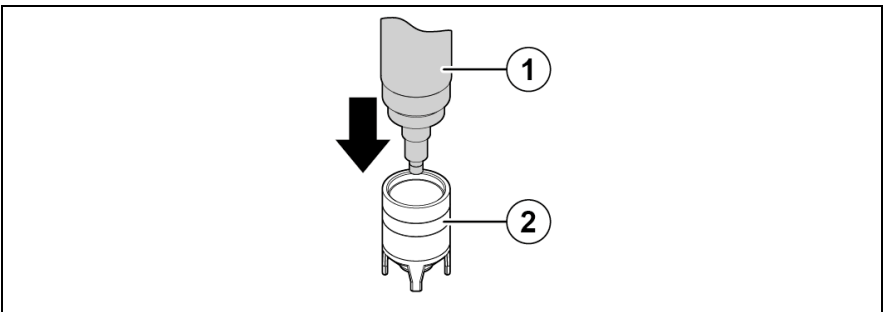

Fig. 5: Placing the sensor body on the sensor cap
- ▶ When screwing on the membrane cap make sure that the valve is not closed off (see Fig. 5, page 18).